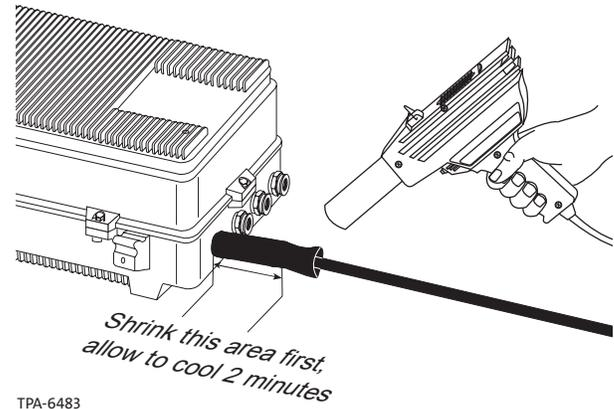

Figure 11
- c. Complete the heat-shrink application by heating the section of tube covering the cable (Figure 11).